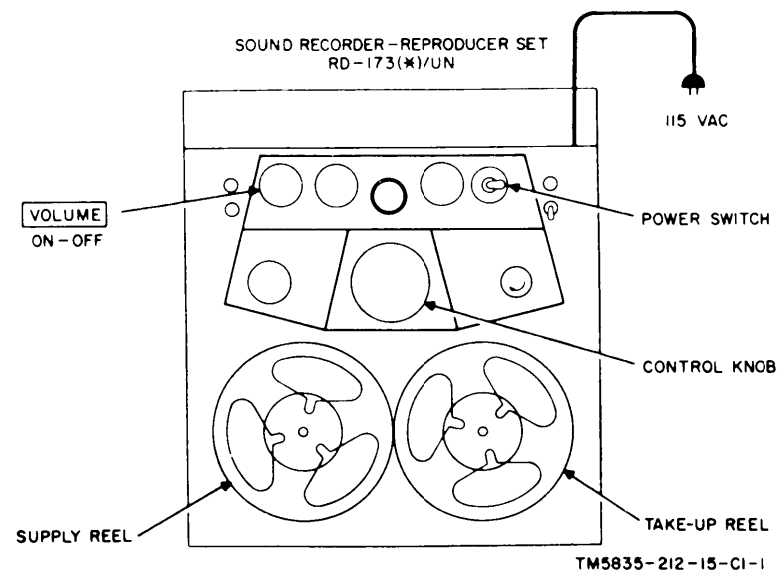

Figure 21.1 (Added) Mechanism test.
b. Test Connections and Conditions. Connect unit to 115 volts AC. Thread tape through head for normal operation (fig. 21.1).